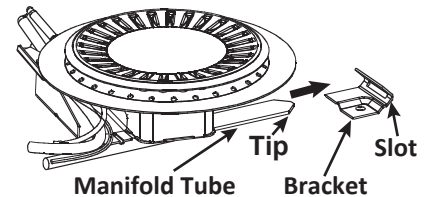
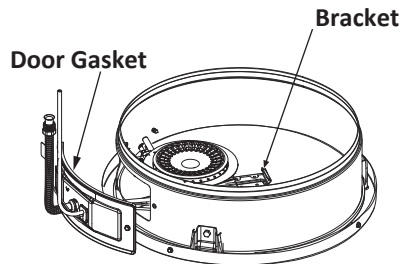

Figure 39: Inside view of combustion chamber.
Figure 40: Combustion Chamber
1. Turn off the gas supply to the water heater at the manual gas shut-off valve (Figure 39). This valve is typically located beside the water heater. Note the position of the shut-off valve in the open/on position, then proceed to turn it off.
- Insert the conversion manifold assembly into the burner compartment, making sure that the tip of the manifold tube engages in the slot of the bracket inside the combustion chamber. See Figure 39 and Figure 40.
4. Inspect the door gasket and make sure there is no fiberglass insulation between the gasket and the combustion chamber (Figure 40).